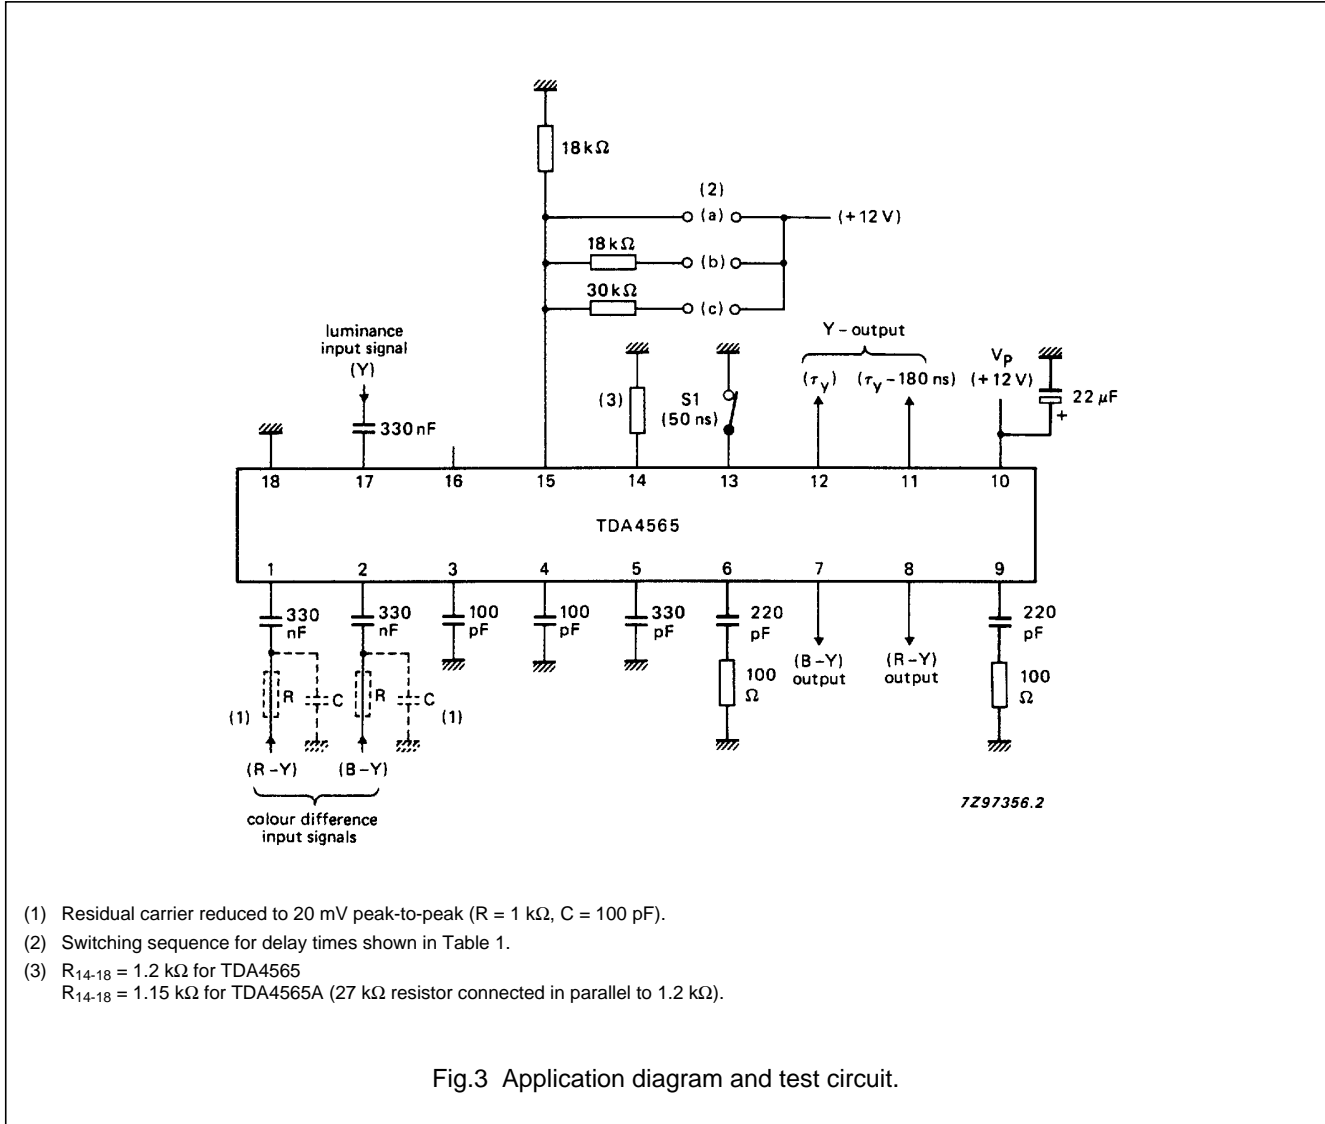

Fig.3 Application diagram and test circuit.
$V_P = V_{10-18} = 12\text{ V}$ ;  $T_{\text{amb}} = 25\text{ °C}$ ; measured in application circuit Fig.3; unless otherwise specified
1. Output signal transient time measured with  $C_{6-18} = C_{9-18} = 220 \text{ pF}$  without resistor (see Fig.3).